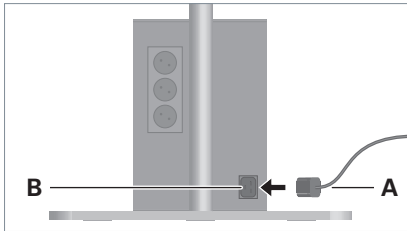

Fig. 10: Connecting the light.
- ▶ Plug the socket **A** into the plug **B** at the supply unit, see Fig. 10.